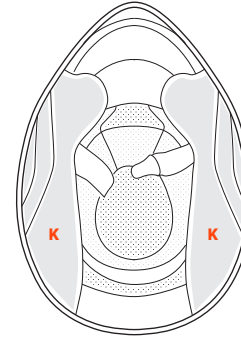

FIGURE 9
**Inner side padding: CHEEK PADS – K – Figure 9**